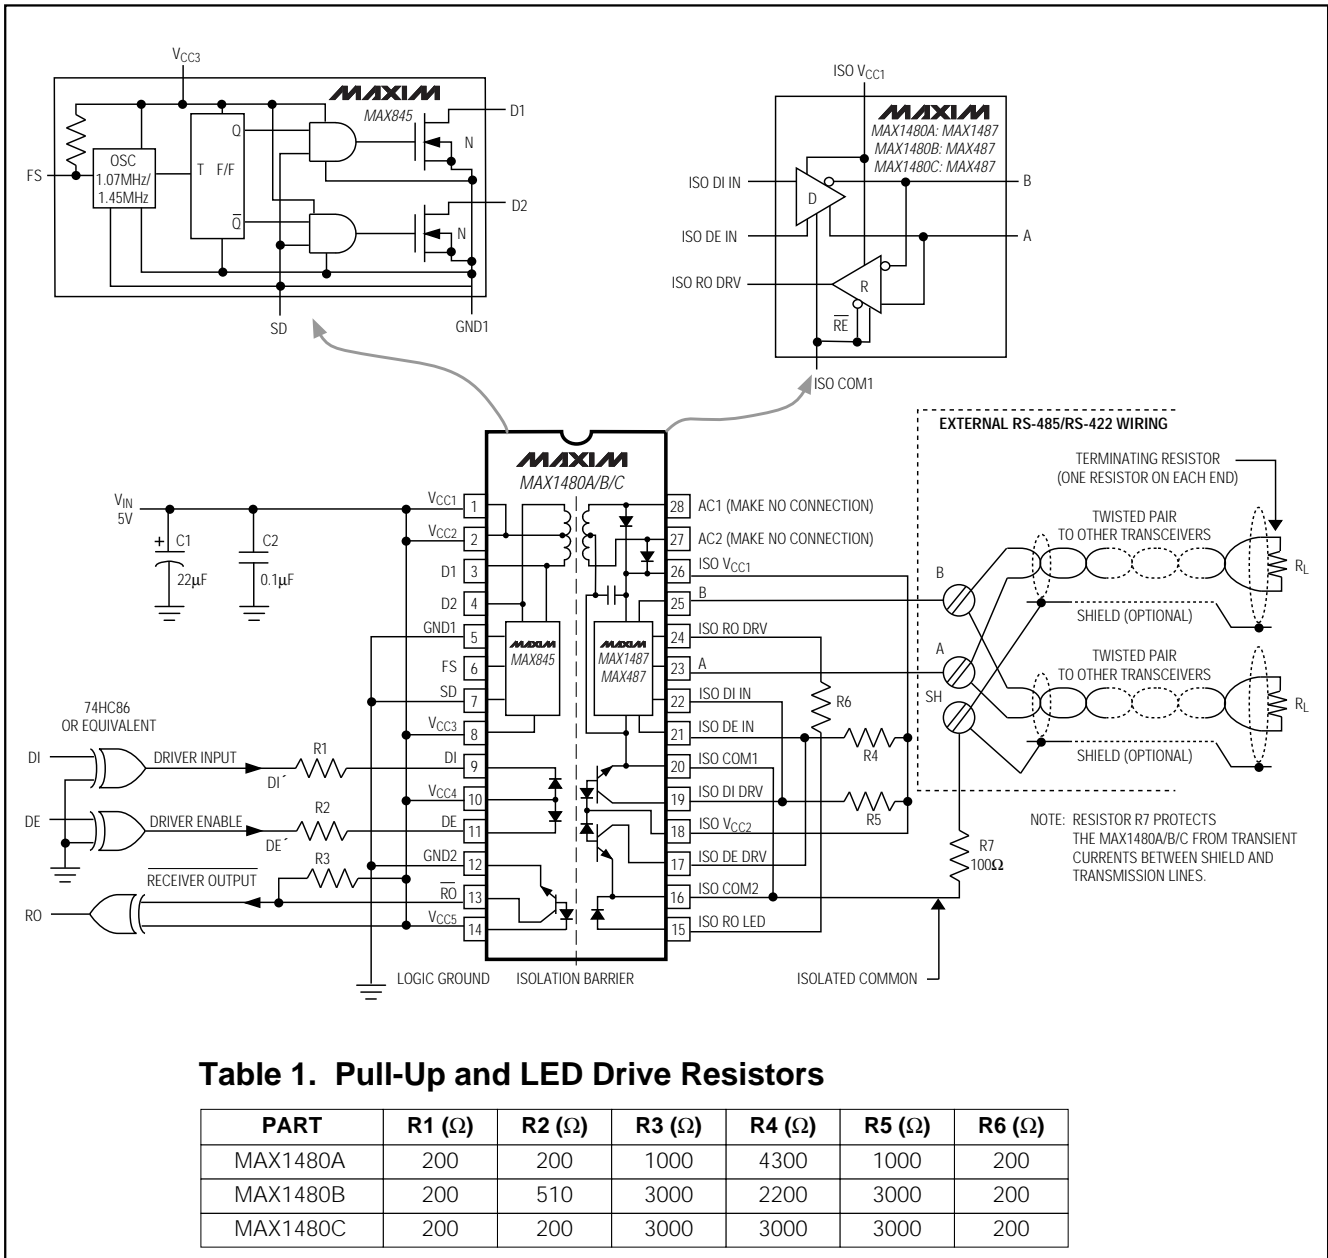
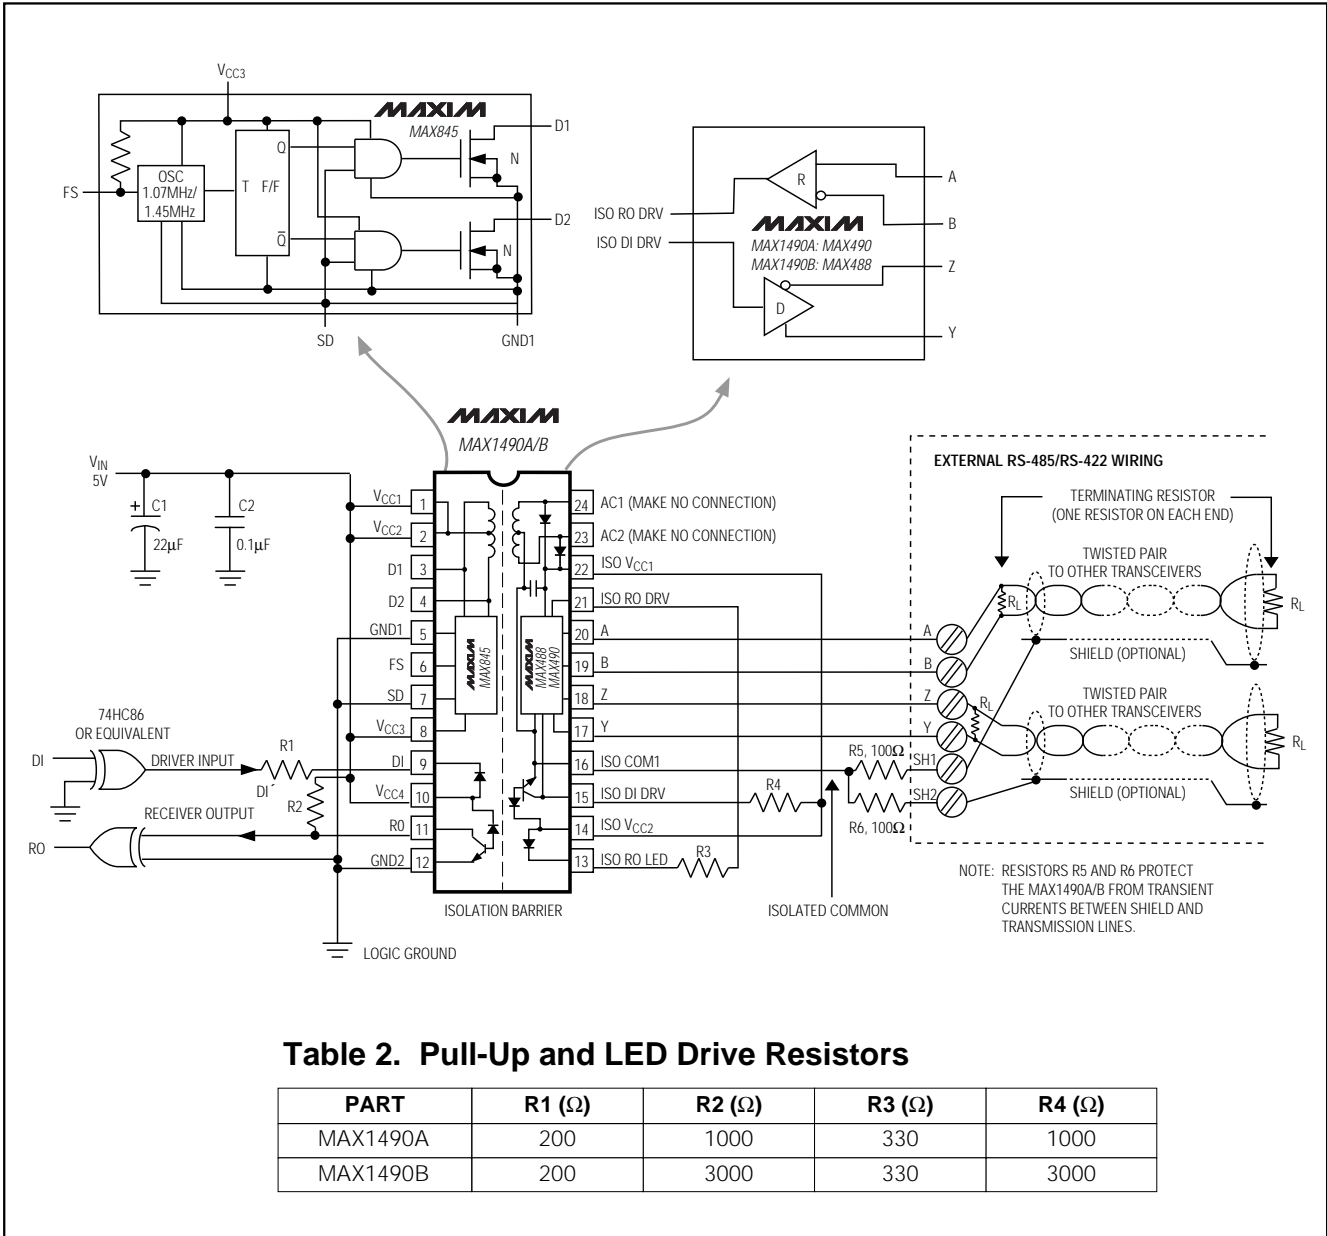

Figure 1. MAX1480A/MAX1480B/MAX1480C Detailed Block Diagram and Typical Application Circuit
Figure 2. MAX1490A/MAX1490B Detailed Block Diagram and Typical Application Circuit
Note 2: For DE⁺ and DI⁺ pin descriptions, see *Detailed Block Diagram and Typical Application Circuit* (Figure 1 for MAX1480A/MAX1480B/MAX1480C, Figure 2 for MAX1490A/MAX1490B).
Note: For DE⁺ and DI⁺ pin descriptions, see *Detailed Block Diagram and Typical Application Circuit* (Figure 1 for MAX1480A/B/C, Figure 2 for MAX1490A/B).
The MAX1480A/MAX1480B/MAX1480C/MAX1490A/MAX1490B are complete, electrically isolated, RS-485/RS-422 data-communications interface solutions. Transceivers, optocouplers, a power driver, and a transformer in one standard 28-pin DIP package (24-pin for the MAX1490A/B) provide a complete interface. Signals and power are internally transported across the isolation barrier (Figures 1, 2). Power is transferred from the logic side (non-isolated side) to the isolated side of the barrier through a center-tapped transformer. Signals cross the barrier through high-speed optocouplers. A single +5V supply on the logic side powers both sides of the interface. The MAX1480A/B/C offer half-duplex communications while the MAX1490A/B feature full-duplex communication. The functional input/output relationships are shown in Tables 3–6.
* For DE¹ and DI¹ pin descriptions, see *Detailed Block Diagram and Typical Application Circuit* (Figure 1 for MAX1480A/B/C, Figure 2 for MAX1490A/B).
The MAX1480A/MAX1480B/MAX1480C/MAX1490A/MAX1490B are specified and characterized using the resistor values shown in Table 1 of Figure 1 and Table 2 of Figure 2. Altering the recommended values can degrade performance.
The isolated common may be completely floating with respect to the logic ground and the effective network ground. The receiver input resistors will cause the isolated common voltage to go to the mean voltage of the receiver inputs. If using shielded cable, tie the isolated common to the shield through a 100Ω resistor. In the case of the MAX1490, each shield should have its own 100Ω resistor (Figures 1, 2, 13, and 14).